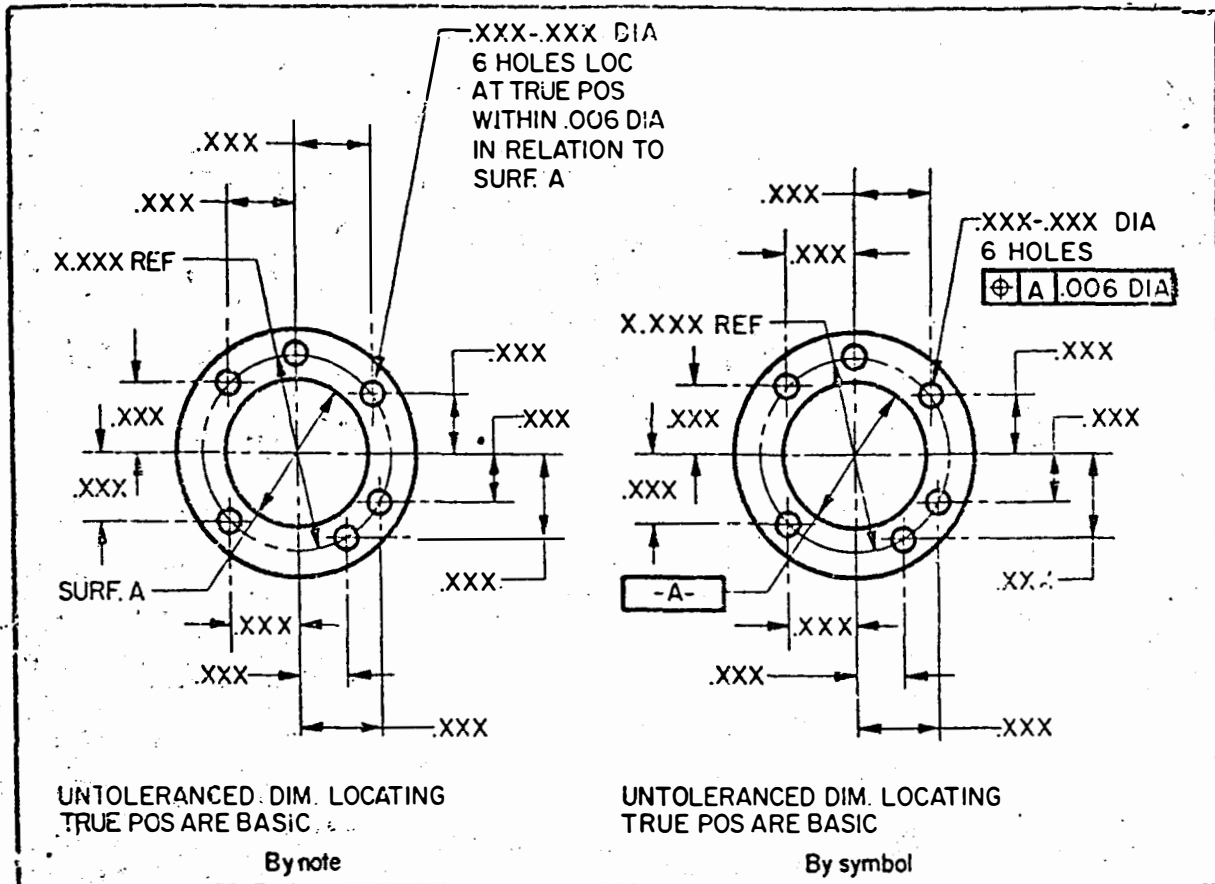

FIGURE 5
A. Datums should always be identified on drawings wherever failure to do so could result in a wrong selection of the datum. For instance, in Figure 5, if Surface A datum reference had been omitted, it would not have been clear whether the inside diameter (Surface A) or the outside diameter was the intended datum. Because some degree of eccentricity between these two diameters is unavoidable, the selection of the outside diameter as a datum (in the absence of any datum designation on the drawing) might have resulted in non-usable parts. Acceptable methods for indicating datums are as follows: